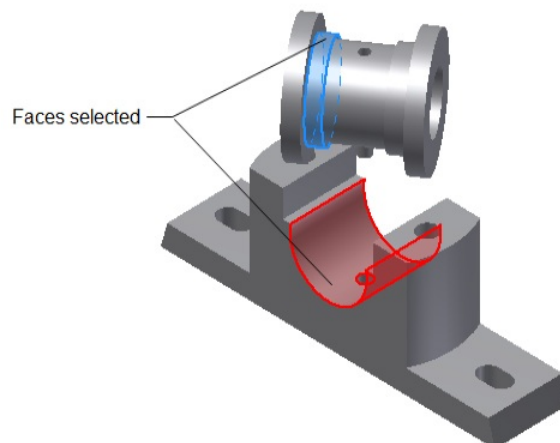

Figure 9-83 Selecting the cylindrical faces of the Brasses and the Casting for
10. Select the cylindrical face of the Brasses as the first selection and then select the cylindrical face of the Casting as the second selection, as shown in Figure 9-83. Next, choose the **Apply** button in the **Place Constraint** dialog box; the constraints are applied, as shown in Figure 9-84.